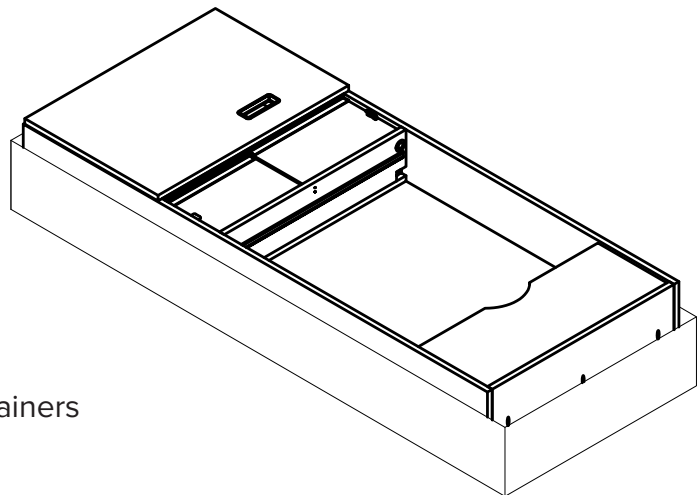

Fig 5.1 - Shipping Containers
1. Inspect shipping containers (Fig 5.1) for visible damage upon arrival. If transit damage is found, contact Ergonomic Products immediately. (This will expedite the corrective process.)
2. Mark out the “center stud” (see fig 5.1 page 7) on the drywall.